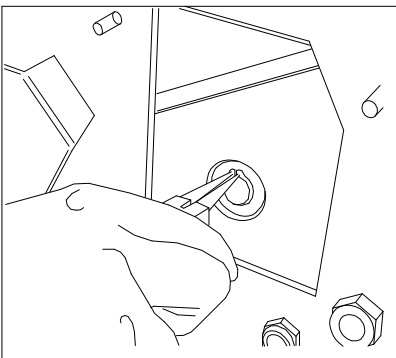

Fig. 22
- Insert the seeger pliers and remove the ring, as shown in Fig. 22 (on the side hopper side).